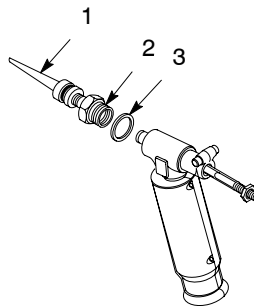

Figure 43 Nozzle Assembly (typical nozzle shown)
6. See Figure 43. Unscrew and remove the nozzle, seat, and seal ring from the handgun body, leaving the o-ring on the seat.